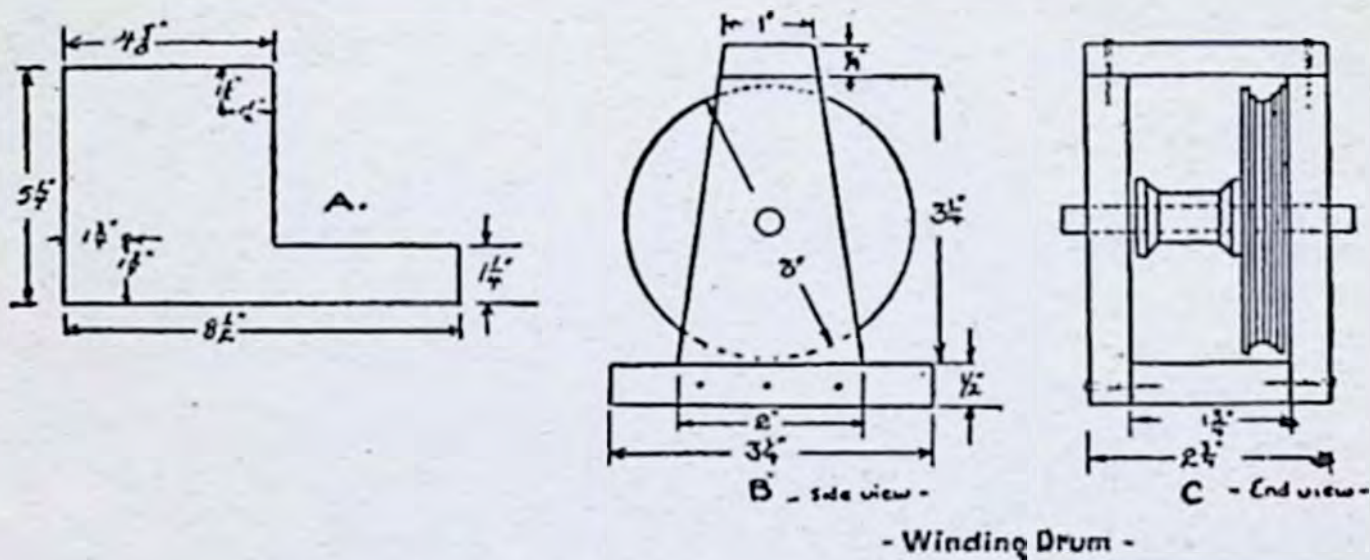

Fig. 51
(59) **HOW TO MAKE AN ELECTRIC-MOTOR-DRIVEN DERRICK:** First get a cigar box of medium thickness (the exact size doesn't matter). Cut away  $3\frac{7}{8}$  inches of one end of it to a depth of 4 inches and then bore three  $\frac{1}{4}$ -inch holes clear through the box at the places marked with the circles at A in Fig. 51. Next make the power-winding drum (see